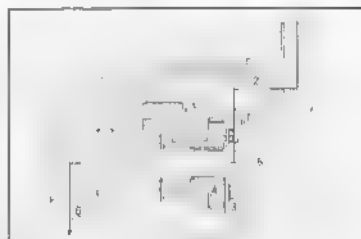

Fig. 3.93 Low gear
**2. Operation (C 90)****Low: (Fig. 3.93)**